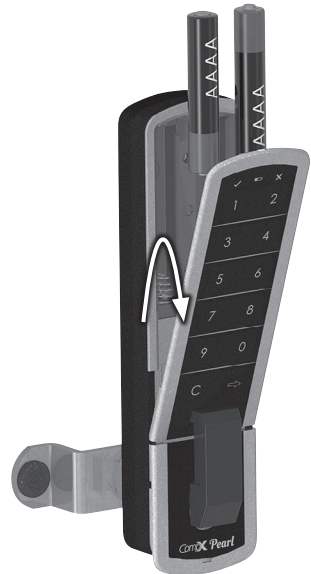

Figure 3
4. Close housing flip up and move housing base to the closed position, see figure 3.